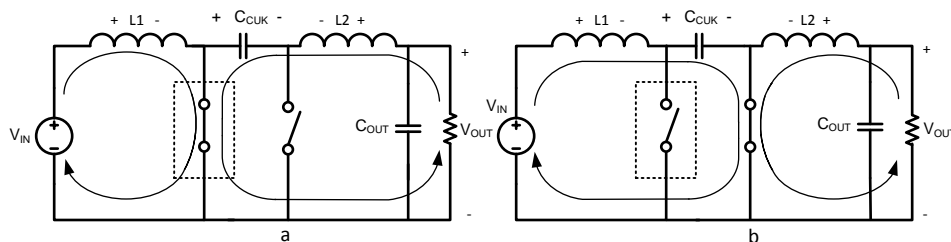
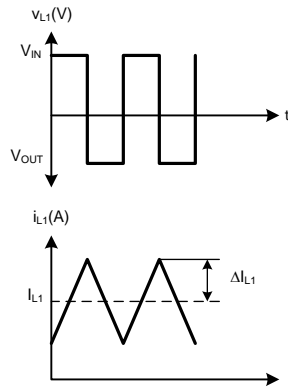
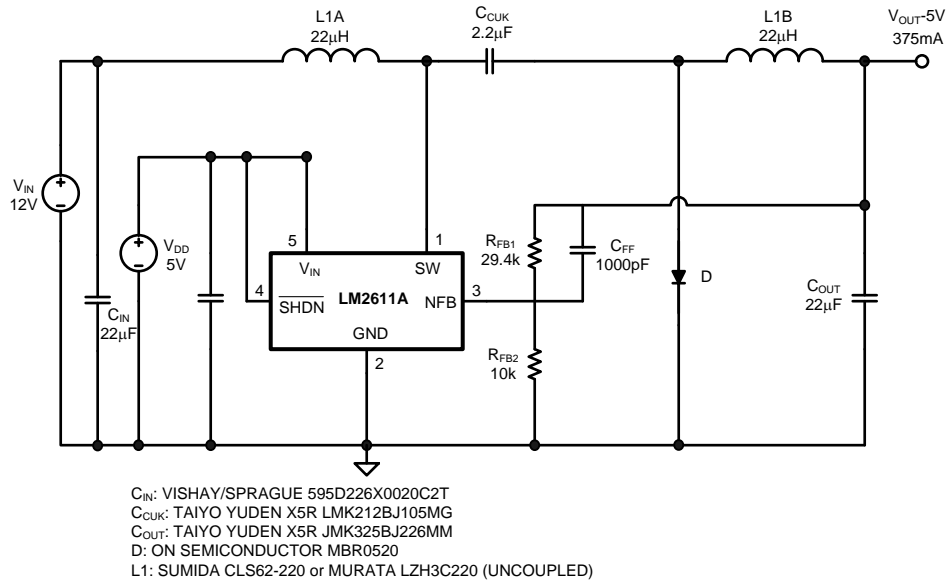

Figure 13. Operating Cycles of a Cuk Converter
Figure 14. Voltage and Current Waveforms in Inductor L1 of a Cuk Converter
Figure 15. Voltage and Current Waveforms in Inductor L2 of a Cuk Converter
The operating states of the Cuk converter are shown in Figure 13. During the first cycle, the transistor switch is closed and the diode is open. L_1 is charged by the source and L_2 is charged by C_{CUK} , while the output current is provided by L_2 . In the second cycle, L_1 charges C_{CUK} and L_2 discharges through the load. By applying the volt-second balance to either of the inductors, the relationship of V_{OUT} to the duty cycle (D) is found to be:
Figure 14 and Figure 15 show the steady-state voltage and current waveforms for L_1 and L_2 , respectively. Referring to Figure 13 (a), when the switch is closed, V_{IN} is applied across L_1 . In the next cycle, the switch opens and the diode becomes forward biased, and V_{OUT} is applied across L_1 (the voltage across C_{CUK} is $V_{IN} - V_{OUT}$).
The voltage and current waveforms of inductor L2 are shown in Figure 15. During the first cycle of operation, when the switch is closed, V_{IN} is applied across L2. When the switch opens, V_{OUT} is applied across L2.
The following equations define values given in Figure 14 and Figure 15:
The input current waveform to a Cuk converter is continuous and triangular, as shown in Figure 14. The input inductor insures that the input capacitor sees fairly low ripple currents. However, as the input inductor gets smaller, the input ripple goes up. The RMS current in the input capacitor is given by:
Like the input current, the output current is also continuous, triangular, and has low ripple (see I_{L2} in Figure 15). The output capacitor must be rated to handle its RMS current: